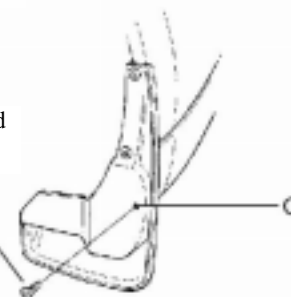

Fig. F-8
10. Install supplied #10 screw in location C while holding part tight against body. (Fig. F-8) (Do not over tighten)